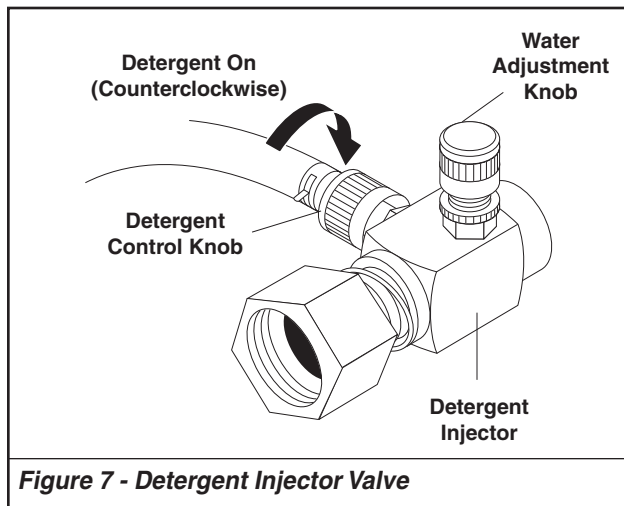

Figure 7 - Detergent Injector Valve
2. Completely open detergent control knob located on the side of the detergent injector valve. Refer to **Figure 7**.
3. Start the detergent suction by rotating the water adjustment knob of the detergent injector valve. Refer to **Figure 7**. Turning the knob counterclockwise will pull detergent into the system. The flow may be observed through the clear detergent line. Secure the knob position with the knurled nut.
10. Turn the side detergent control knob clockwise (CW) for detergent decrease. Wait for detergent to clear. Always rinse with cold water after using detergent. Rinse from the top to the bottom to prevent detergent from dripping onto a rinsed area. For the best results, contact your Hotsy dealer to help you select the best detergent for your application.